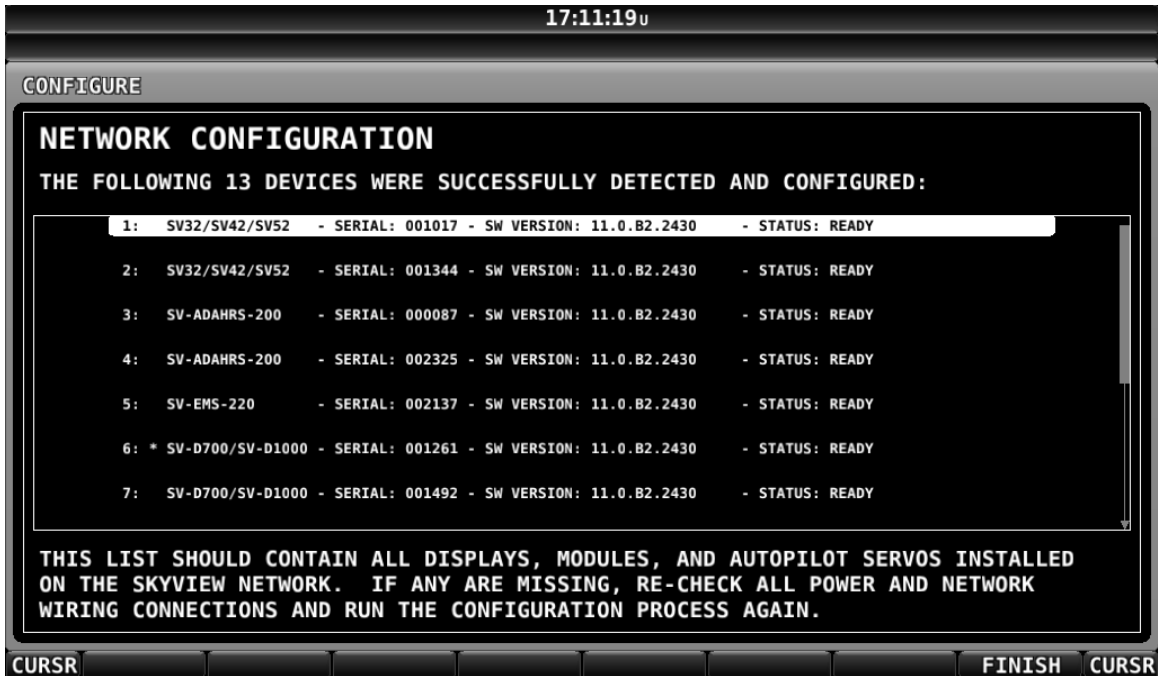

Figure 42 – Successful SkyView Network Configuration Screen
3. *Press DETECT*. A successful network configuration yields the screen in Figure 42 (depending on the units installed, your SkyView system's network devices will look different and display different Software versions).